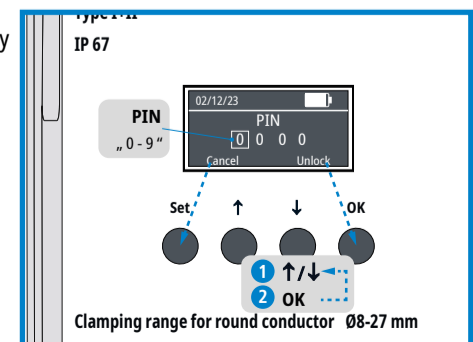

Fig. 9 Menu - PIN
The device display switches to the „PIN“ menu (Fig. 9):
The „*PIN*“ menu (Fig. 9) appears:
- use **↑** and **↓** to set the PIN (see also Fig. 9)